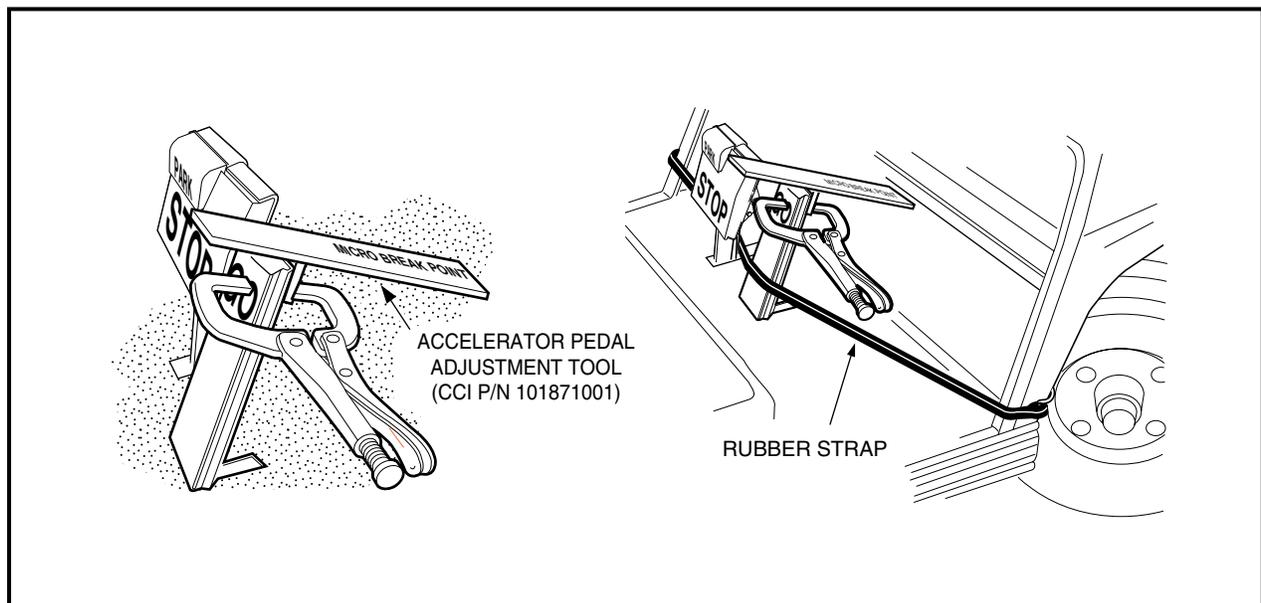

Figure 5-42 Accelerator Pedal Height Adjustment
- 5.2. Clamp the accelerator pedal adjustment tool (CCI P/N 101871001) to the accelerator pedal, with the end marked *accelerator pedal height* closest to the floorboard (Figure 5-42, Page 5-24). Press the accelerator pedal until the end of the tool rests against the floorboard; (pedal height should be 5-5/8 inches (14.3 cm)). Use a rubber strap to hold pedal in position against the floorboard and then tighten nut to 26 ft-lb (35.3 N·m).